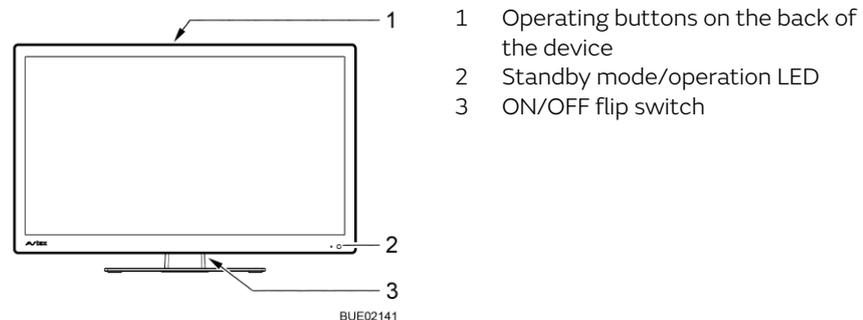
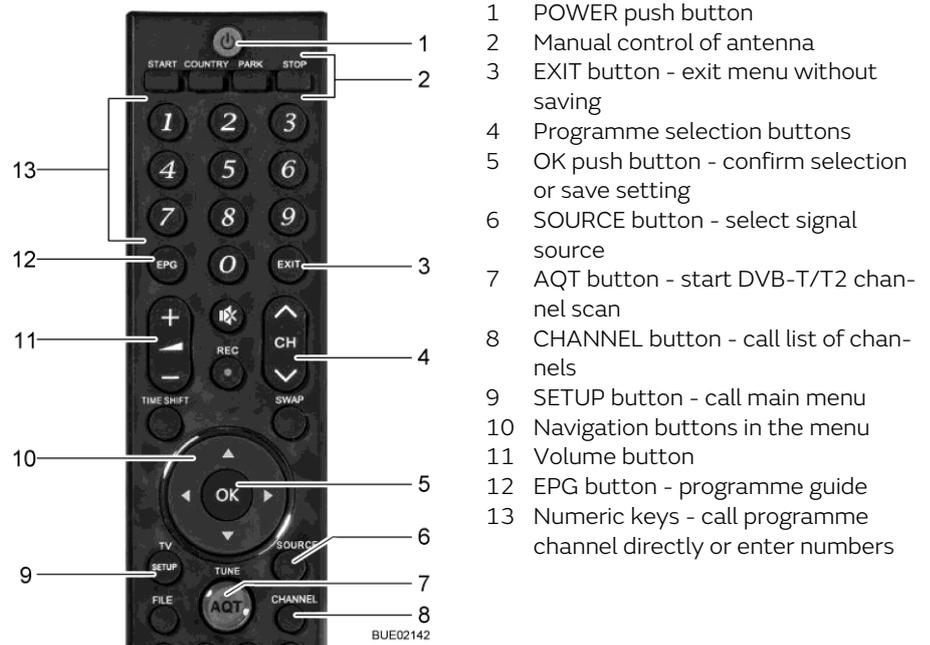

Fig. 44 Operation on the flat screen
Fig. 45 Remote control
- Set flip switch (Fig. 44,3) on the flat screen's back to ON. The system changes to standby mode. The LED (Fig. 44,2) is lit red.
- Press the POWER button (Fig. 45,1) on the remote control. The LED (Fig. 44,2) is lit blue.
- Press the programme selection buttons (Fig. 45,4 or Fig. 45,13) until the desired TV programme has been selected.
- Press the SOURCE button (Fig. 45,6) repeatedly until the desired signal source has been selected.
- Press the PARK button (Fig. 45,2). The antenna moves into parking position.
- Press the SOURCE button (Fig. 45,6) repeatedly until the desired signal source (e.g. DVD) has been selected.
- Press the POWER button (Fig. 45,1) on the remote control. The system changes to standby mode. The LED (Fig. 44,2) is lit red.
- Set flip switch (Fig. 44,3) on the flat screen's back to OFF.